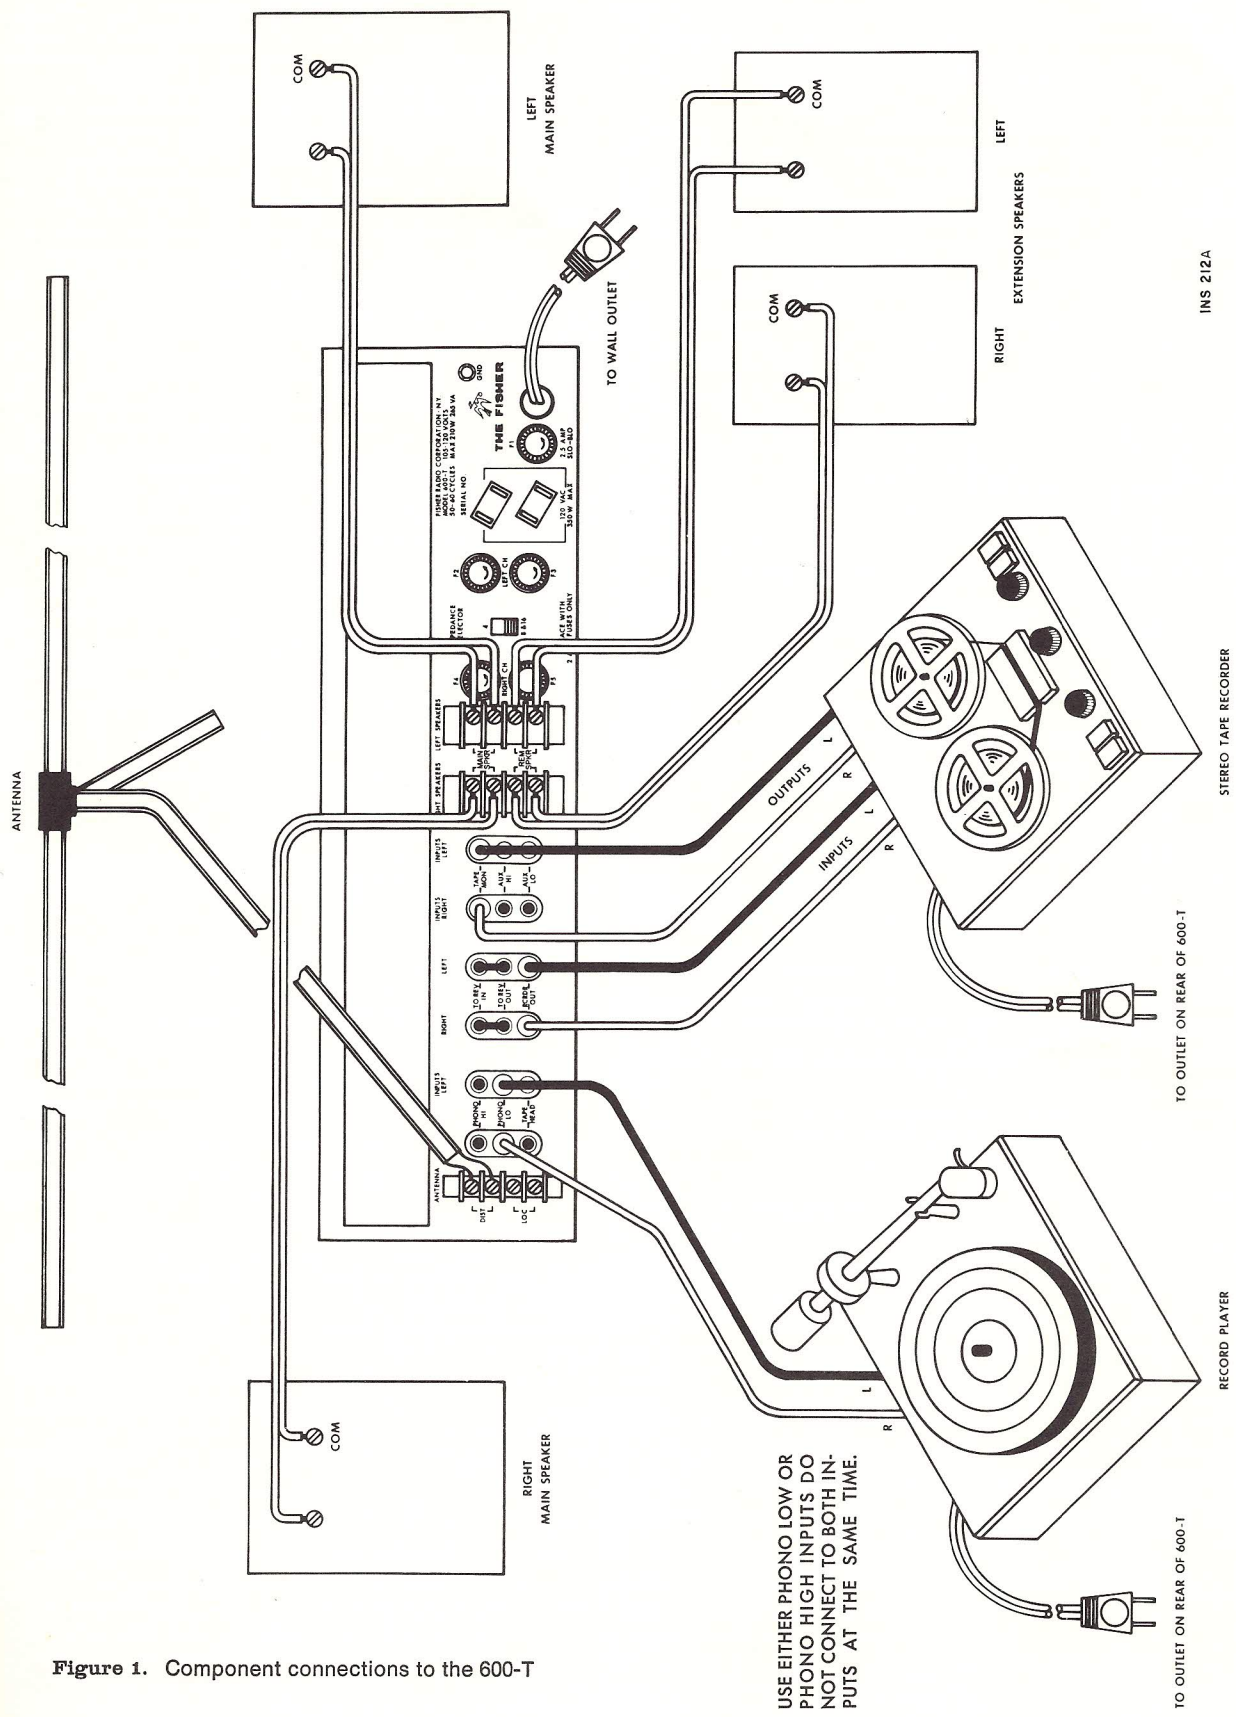

Figure 1. Component connections to the 600-T
a. General — A folded dipole antenna is packed with the 600-T. The two arms (the horizontal portion of the antenna shown in Figure 1) should be mounted horizontally, and away from all electrical wiring and large metal objects. The best procedure is to first tack the antenna to a length of wood, making sure that the tacks do not contact the conductors running along each edge of the cable. Next, rotate the antenna in the horizontal plane, until the antenna is pointed in the direction which yields best reception. In buildings using steel structural supports, reception can generally be improved by placing the antenna close to a window. To permit placing the antenna further from the receiver, the lead of the antenna which connects to the set can be extended by splicing on an additional length of 300-ohm twinlead, which is available from your dealer, and from most radio supply stores. Once the antenna is positioned for best reception, the length of wood may be fastened to the wall, or to the rear of a cabinet. Avoid fastening the antenna directly to the wall, since a loss of signal strength could result. In a strong signal area, the antenna may be placed under a carpet, although reception of weaker stations improves greatly as the height of the antenna is increased. Never fold or coil the antenna, since this will impair reception of weak stations.
ONE SPEAKER: If you are using only one speaker, it should be connected to the MAIN SPKR terminals on the strip marked LEFT SPEAKERS (see Figure 1). Next, set the switch marked IMPEDANCE SELECTOR, which is used to match the output impedance of the 600-T to that of your speaker. For speakers with a 4-ohm impedance, slide the switch to the upper (4) position. If the speaker has an 8- or 16-ohm impedance, slide it to the lower (8 & 16) position. If you are unsure of your speaker's impedance, slide the Impedance Selector to the 4 position. The Balance control should be turned to the maximum *counterclockwise* position until a speaker is attached to the RIGHT SPEAKER output terminals. If only one speaker is used, the MONO pushbutton should *always* be depressed. This will combine the signals from the left and right channels of stereo program sources